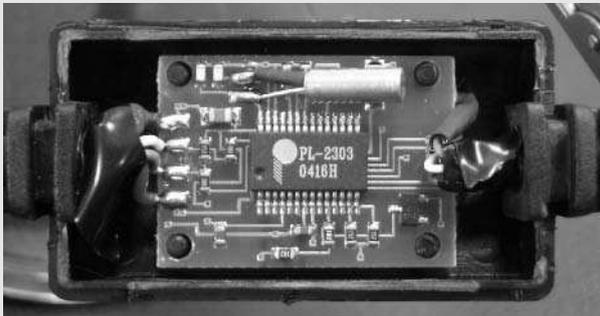

FIGURE 15-13: Inside the bulge, a PL-2303 USB-to-serial chip
2. When you open up the bulge (see Figure 15-13), you'll see that it contains a Prolific PL-2303 USB-to-serial interface chip, just like the cheap USB-to-serial adapters. You already know that this chip is well supported on all the OSes (and the `p12303` driver is part of any Linux, including OpenWrt). You can download the spec sheet for said chip and you'll see that it normally operates at 3.3V, but its inputs are 5V-tolerant and its 3.3V outputs are within the valid range for 5V logic. Thus, Roomba should understand it, and vice versa.